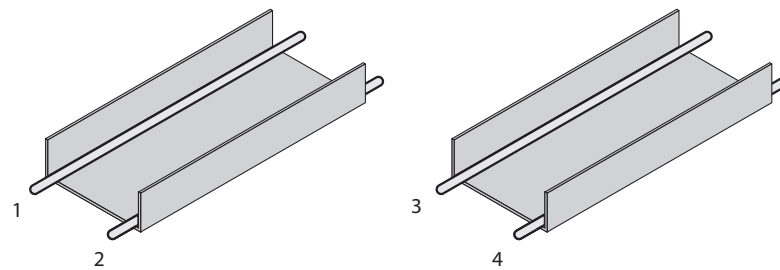
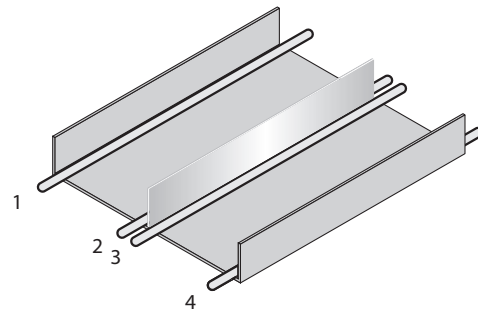

Figure 3: Ideal laying – Place cables in different cable channels
Figure 4: Alternative laying – Separate cables with metallic separators
- ▷ Cables in groups 1, 2 and 3, 4 must be routed in different cable channels or metallic separators must be used, see figure 3, page 26 and see figure 4, page 26. This applies particularly where cables of devices with a high level of radiated emission, such as frequency converters, are laid parallel to sensor cables.